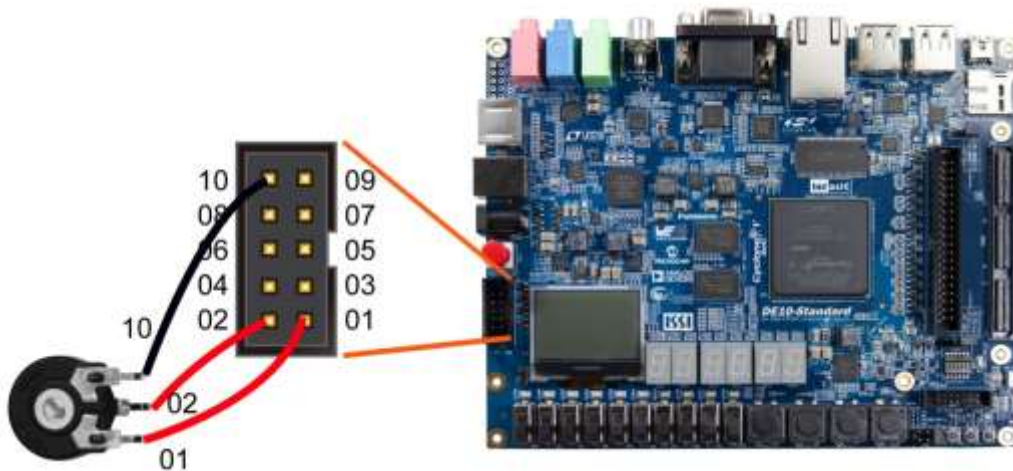

Figure 5-25 Hardware setup for the ADC reading demonstration
- Connect the trimmer to corresponding ADC channel on the 2x5 header, as shown in **Figure 5-25**, as well as the +5V and GND signals. The setup shown above is connected to ADC channel 0.